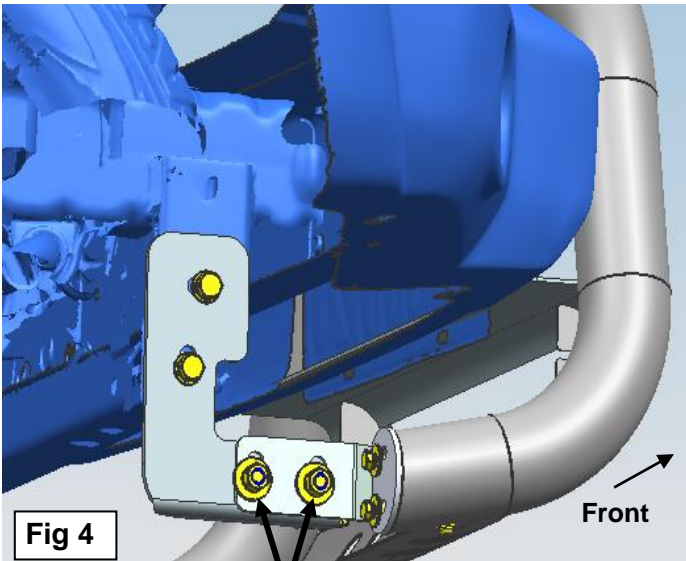

Fig 4
- Next, select the Mounting Bracket 2, **(Figure 4)**. Bolt the Mounting Bracket 2 to the lower hole in the Mounting Bracket 1 with (2) 12mm x 35mm Hex Bolt, (2) 12mm Flat Washer and (2) 12mm Lock Washer inserted through the Mounting Bracket 2, the lower hole in the Mounting Bracket. Snug but do not tighten at this time.